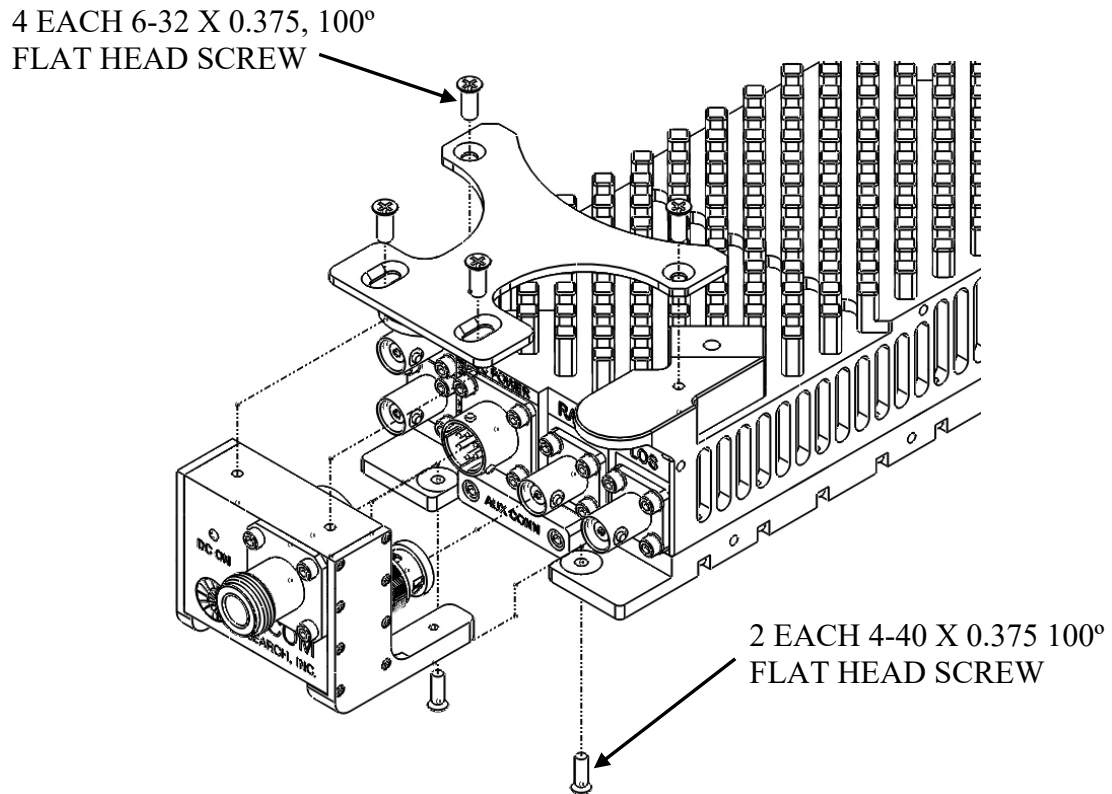

Figure B-2 Bias Tee 3 (PA) Installation
- a. Mount TCR-BT-01-2 to the power amplifier as depicted in Figure B-2.
- c. Connect RADIO jack on TCR-BT-01-1 to the appropriate radio RF input/output port as depicted in Figure B-2.